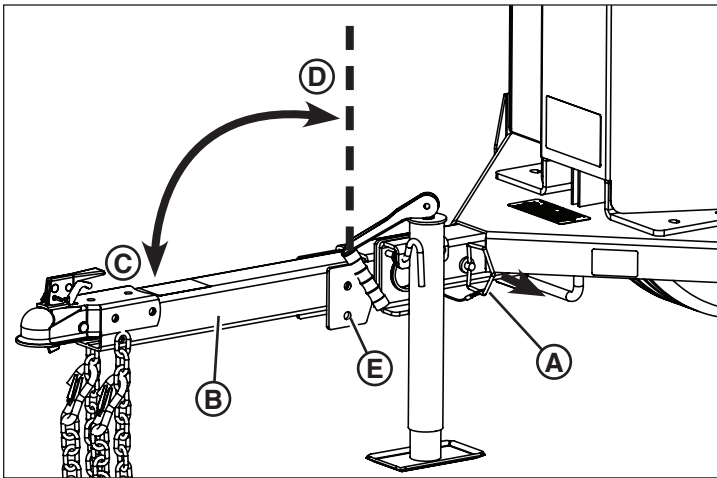

Figure 4
1. Remove the locking pin (**A**, Figure 4) securing the trailer tongue (**B**) in the towing position (**C**).
2. Raise the trailer tongue to the park position (**D**, Figure 4). Secure with the locking pin, inserting into the park position locking hole (**E**). Be sure to secure the locking pin with the attached hairpin.
1. Remove the locking pin securing the trailer tongue in the park position (E, Figure 4).
2. Lower the trailer tongue to the towing position (C, Figure 4). Secure with the locking pin (A). Be sure to secure the locking pin with the attached hairpin.